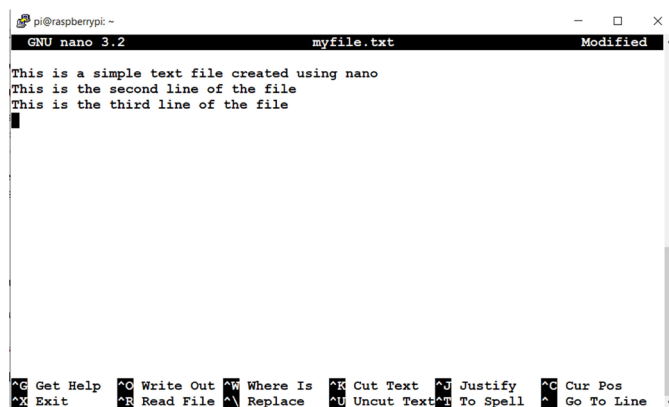

Figure 2.1 Text entered into the editor
- Enter the above text into the file (see Figure 2.1). You should see a number of control codes at the bottom of the screen.